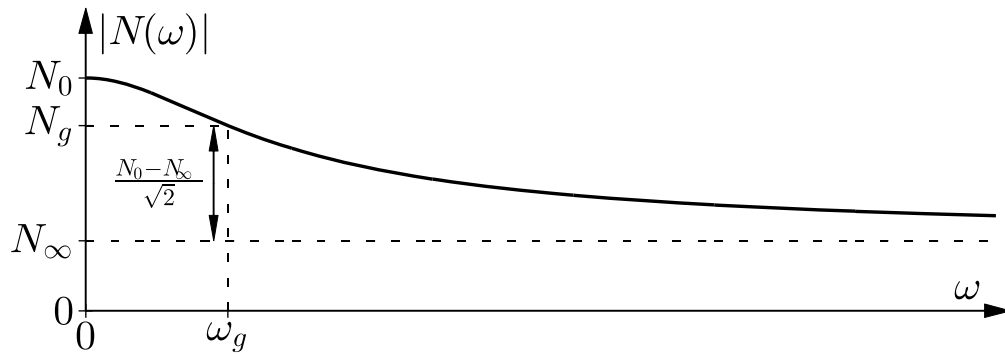

Figure 1. Model of the colour noise
7. Frequency spectrum of the noise will be analysed next. Absolute value of the Fourier transform of the noise $|N(\omega)|$ should be plotted in the linear-linear scale. Determine the character of the noise: white noise (at least in the frequency interval defined by the Nyquist-Shannon theorem) or high-frequency noise. In the latter case, some parameters of the noise model have to be estimated (see Figure 1): low-frequency and high-frequency amplitude of $|N(\omega)|$ is denoted by N_0 and N_∞ , respectively. Frequency ω_g also has to be estimated. The model of the colour noise from Figure 1 is given by the following equation: